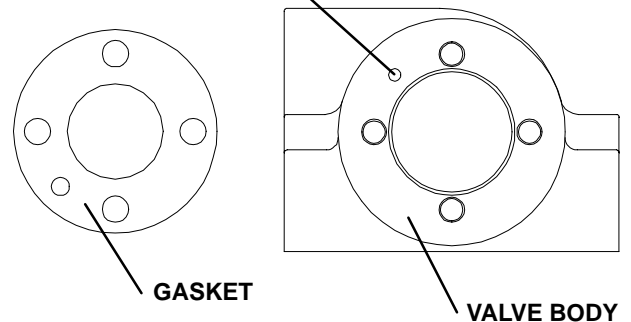

FIGURE 1
- NOTE: Make sure the hole in the gasket does NOT line up with the internal solenoid supply hole in the body. See figure 1.